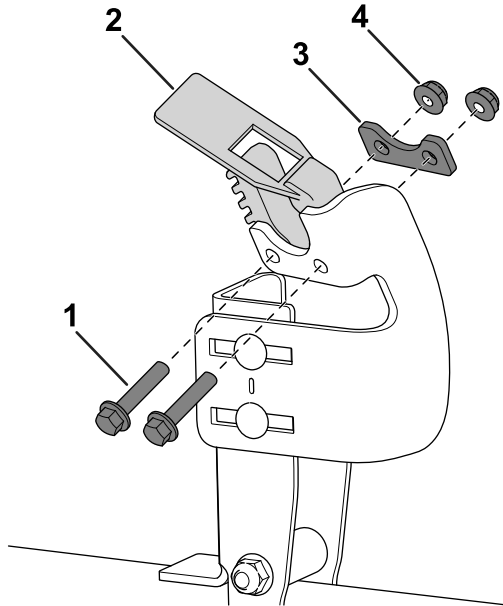

Figure 8
- Use 2 hex-head bolts (1/4 x 1-1/4 inch), 2 flange nuts (1/4 inch), and a small backer plate to secure the small clamp to the clamp mount (Figure 8).